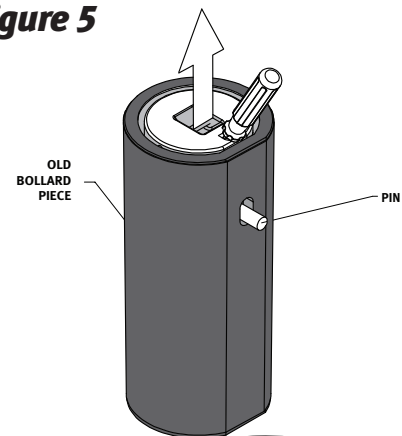

Figure 6b
- At the same time, pull up on the pull bar with pliers. Both the Insert and the remaining portion of the Bollard will now lift freely out of the Sleeve. See **Figure 6b**.